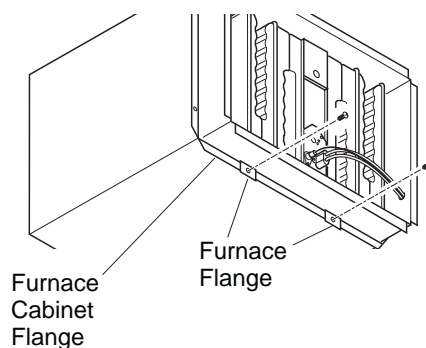

Figure 11 - Removing Screws on Lower Flange (40,000 BTU/Hr Model Shown)
2. Remove two screws on front lower flange that attach furnace flange to furnace cabinet flange (see Figure 11). *Note:* 40,000 BTU/Hr model has a bottom shield (see parts list, page 22, for location). Removing two screws will detach bottom shield.